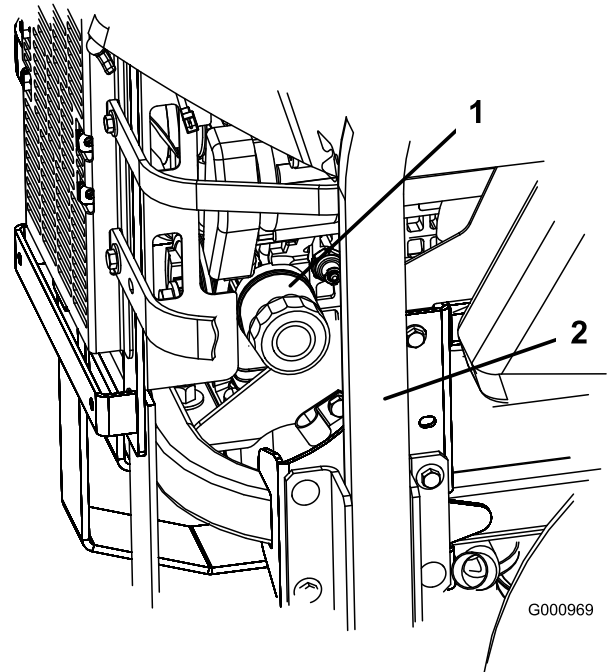
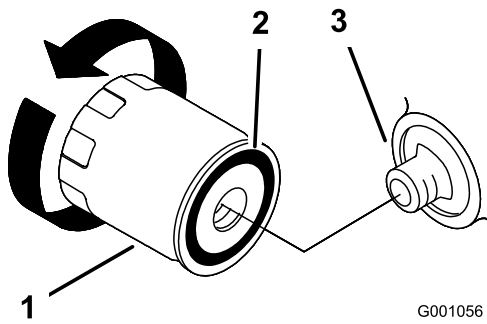

Figure 48
Figure 49
3. Turn the filter counterclockwise to remove it (Figure 48 and Figure 49).